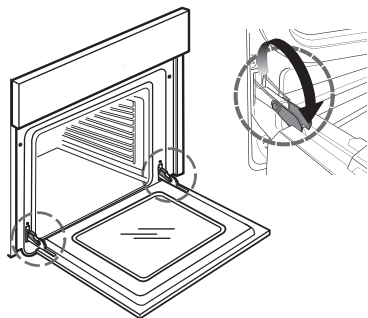
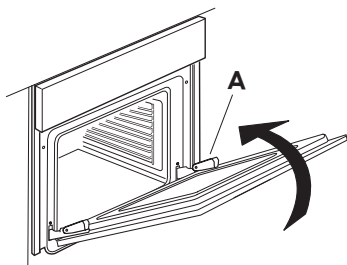

Fig. 1
Fig. 2
MEAT PROBE	The meat probe supplied allows the exact temperature (up to 100°C) to be measured during cooking, to ensure optimum cooking. Based on the food being cooked, the required core temperature can be set. It is very important to position the probe accurately in order to obtain perfect cooking results. Insert the probe fully into the fleshiest part of the meat, avoiding bones and fatty parts (Fig. 1). For poultry, the probe should be inserted sideways, in the middle of the breast, taking care to ensure the tip does not end up in a hollow part (Fig. 2). In the case of meat with very irregular thickness, check it is cooked properly before removing it from the oven. Connect the end of the probe in the hole located on the left bottom part of the control panel  Fig. 1  Fig. 2
2. Lift the catches and push them forwards as far as they will go (Fig. 1).
3. Close the door as far as it will go (A), lift it up (B) and turn it (C) until it is released (D) (Fig. 2, 3, 4).